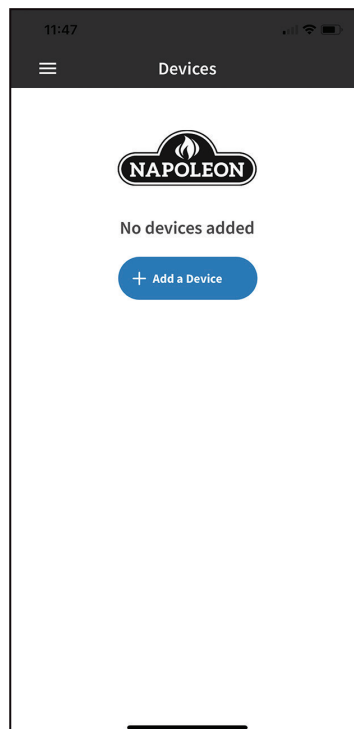

Fig. 3
3. Select “Add Device” and accept permissions (**Fig. 3 & 4**).